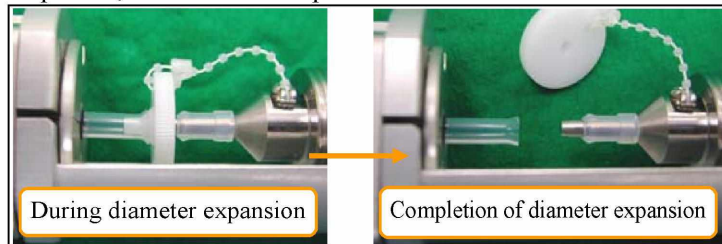

Fig. 65 – Expanding the tube diameter
- Turn the grip clockwise to advance the screw and expand the tube end with the flare part. Repeat this step several times (Fig. 65).